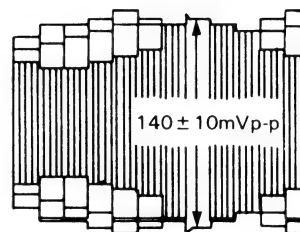

Figure 2-9.
4. Adjust R3304 (recording FM control) so that the sync tip be  $140 \pm 10\text{mVp-p}$  as shown in Fig. 2-9.